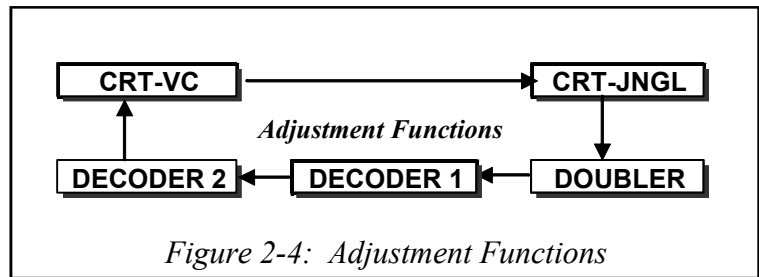

Figure 2-4: Adjustment Functions
- 1) Press the "AUDIO" button on the remote hand unit to select an adjustment function. Each time the button is pressed, the Function changes in the sequence shown in *Figure 2-4*.